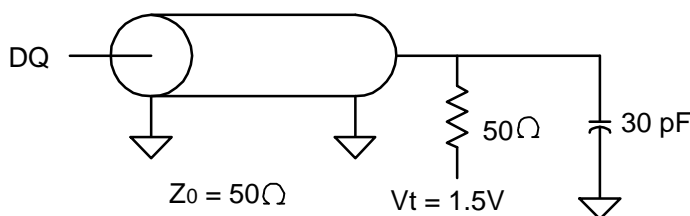

Fig.1 OUTPUT LOAD EQUIVALENT
| Output load                   | See Figures 1 and 2 |
5. Test conditions as specified with the output loading as shown in Fig. 1 unless otherwise noted.